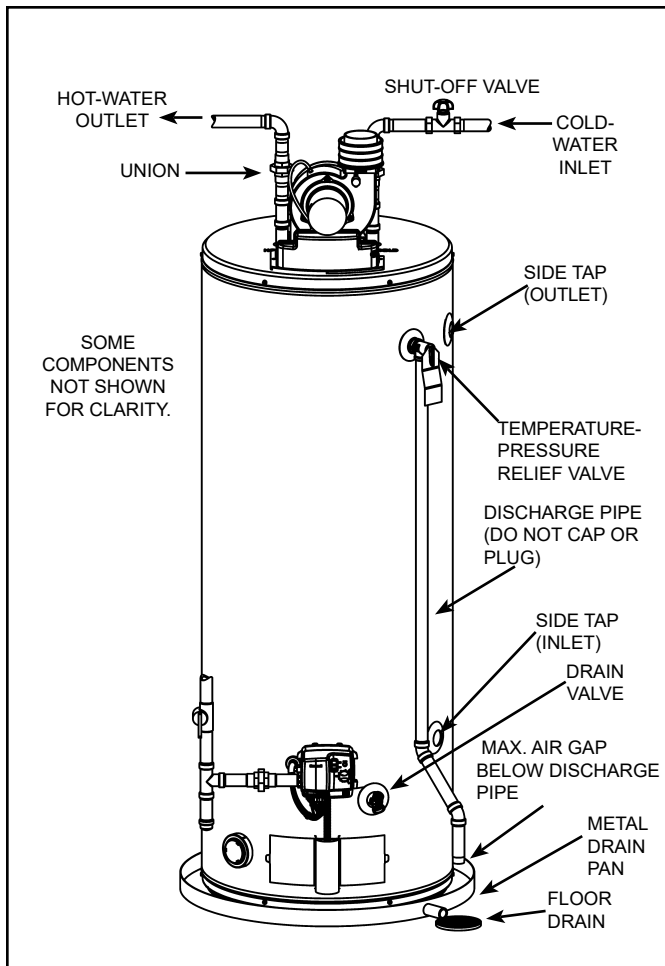

Figure 28.
1. Close the water heater drain valve by turning handle to the right (clockwise). The drain valve is on the lower front of water heater (see Figure 28).